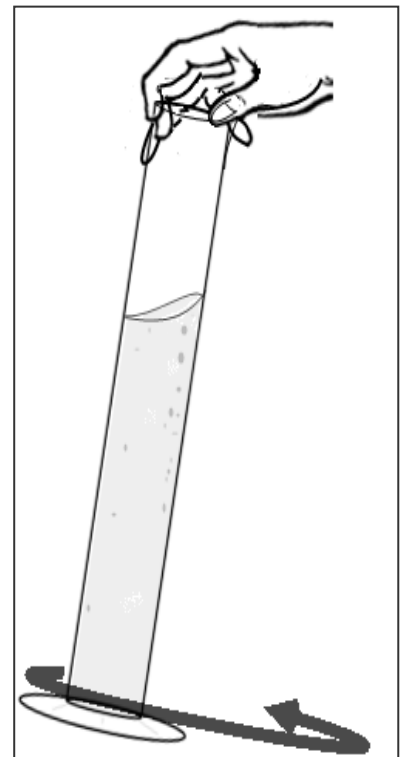

Figure 13
7. Make sure the solution you gathered does not have excessive amount of bubbles. To release excess amount of bubbles from the solution gently tap the Hydrometer Cylinder or gently swirl the entire Hydrometer Cylinder until bubbles have been released from the solution (Figure 13).
2. Connect Transfer Hose to the storage tank and OPEN the Main Transfer Ball Valve at the side of the Filter Housing. Press the Dissolution START button to transfer concentrate into the storage tank (Figure 13).